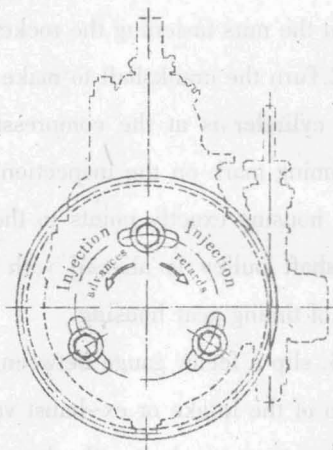

Fig.2 Adjustment of specified advanced injection angle
3. In case that they do not match with each other, the advanced injection angle can be adjusted by removing off the front cover on the timing gear housing and loosening the three screws fastening the injection pump timing gear support (see fig.2). If the injection timing is too advance, turn the timing gear support anticlockwise to the proper angle. Otherwise, turn the support clockwise. If adjusting range is not enough due to limitation of the three elongated holes, loosen a little the three fastening nuts on the triangular flange of the injection pump and turn the injection pump. Facing the front end of engines, when the injection pump rotates clockwise, the fuel injection will retard; while the pump rotates anticlockwise, the fuel injection will advance.